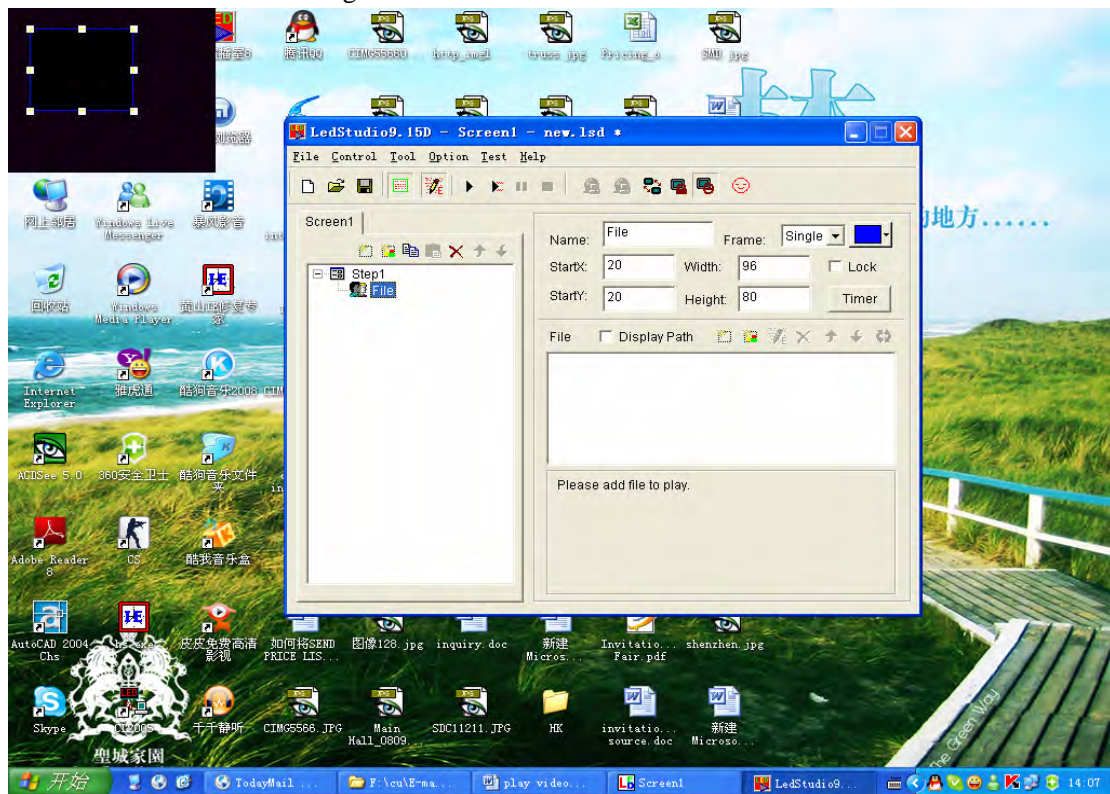

Figure 5
5. click on “file window” figure 5 comes